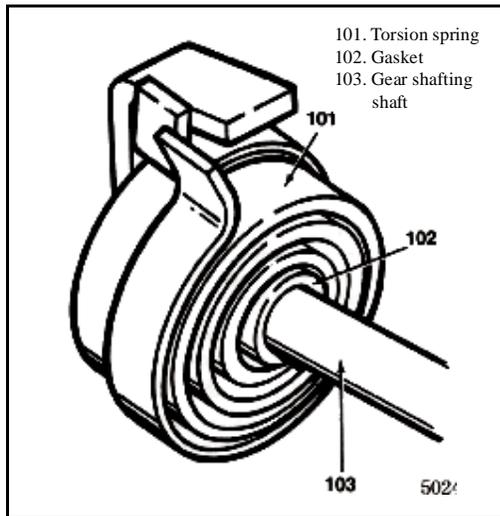

Fig. 5-4
2. Slide torsion spring (101) and gasket (102) on gear shifting shaft (103) to position of drive tongue, and place the first finger tip of torsion spring on left side of the drive tongue (observe from the free end of gear shifting shaft) (see Fig. 5-4).